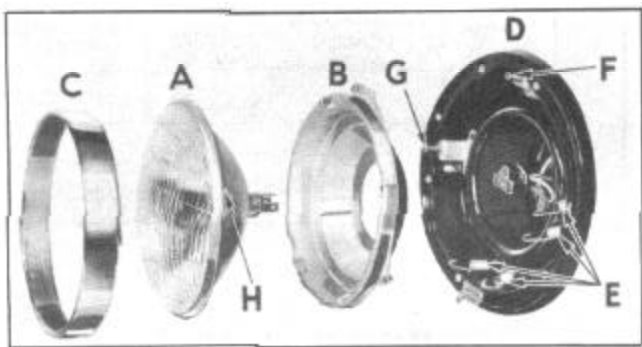

FIGURE 27
The Sealed Beam reflector unit (A) Figure 27, is held to a sub-body (B) by the retainer (C) and three screws. The sub-body (B) forms a ball and socket joint with the lamp housing (D) and is held to the housing by four coil springs (E) plus the vertical adjustment screw (F) and the horizontal adjustment screw (G).